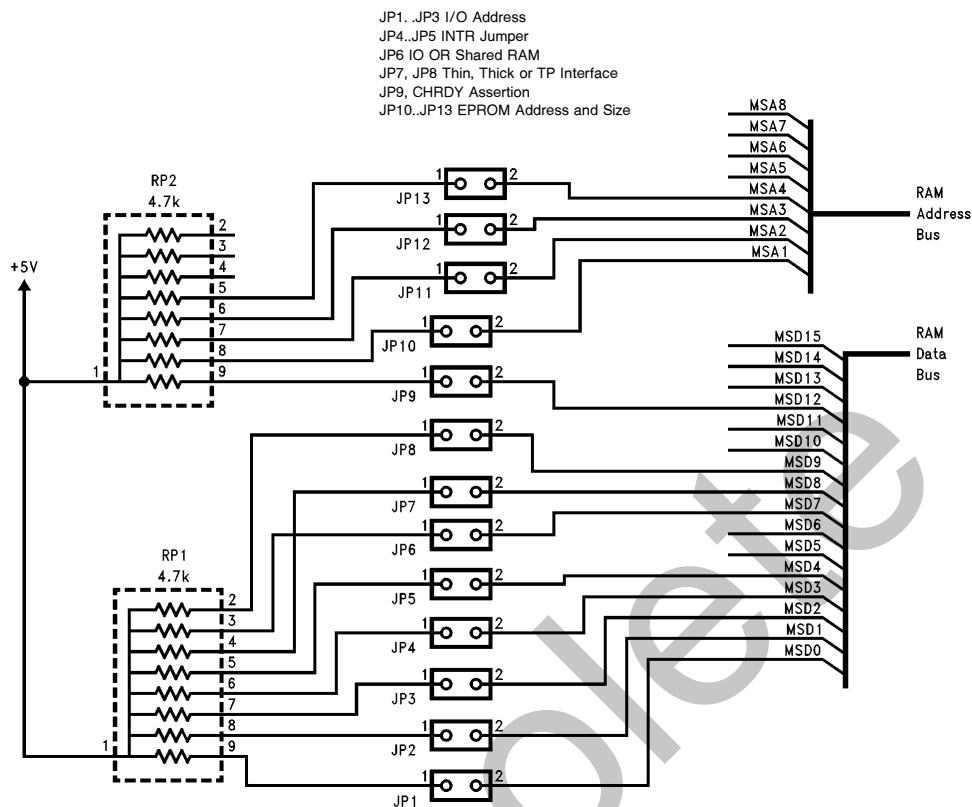

FIGURE 11. Example of Jumper Configuration
1. Full jumper options: All programmable options are selected by utilizing jumpers on the board. Option selection requires no special software. An example of this is shown in the *Figure 11*.
This option is shown in *Figure 11*. In this configuration most options are selected by jumpers on the AT/LANTIC Controller's memory bus. For this option all configuration options are set upon power-on by the AT/LANTIC Controller as described in Section 4.2. Accessing the configuration registers is unnecessary and the EEPROM need only contain the